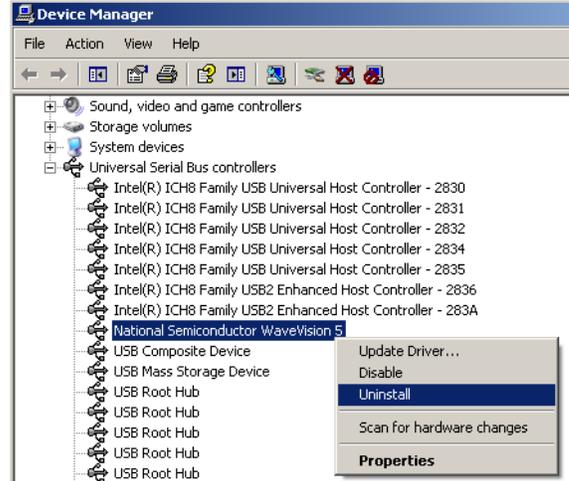

Figure 1: Uninstalling old driver
3. Locate the National Semiconductor WaveVision 5 device in the USB controllers section of the Device Manager, right-click, and select 'Uninstall' as shown in Figure 1. Proceed with the uninstall process.